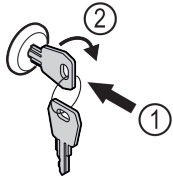

Fig. 58 Example illustration
- Insert key Fig. 58 (1).
- Turn key clockwise by 90° Fig. 58 (2).